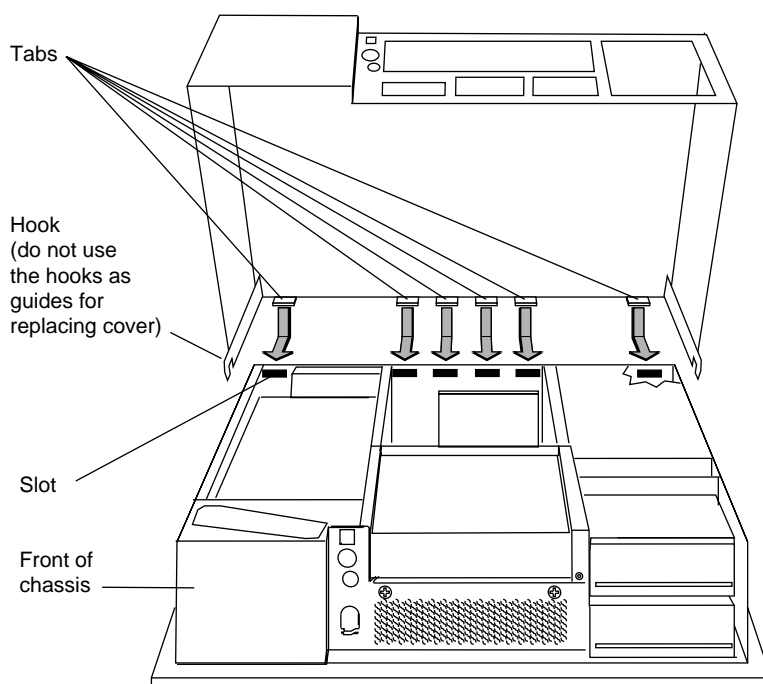

Figure 3-14 Replacing the Top Cover
1. Locate the tabs on the inside and back of the top cover, and the holes on the back of the workstation. Figure 3-14.